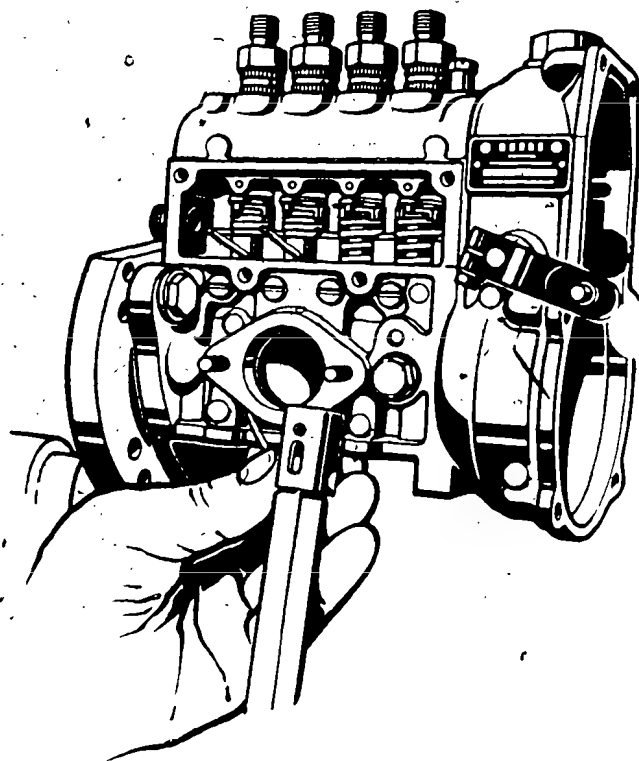

Fig. 10: Installing roller tappet
7. Introduce tappet (5) into tappet guide by hand and force upwards by using special tool EFEP 91/4. The longitudinal groove in the tappet (tappet fixing) must point forwards (Fig. 10). Press on the tappet until it is in the upper dead center, then, from the front introduce the tappet holder pin into the fixing hole in the tappet visible in the upper part of the pump housing.